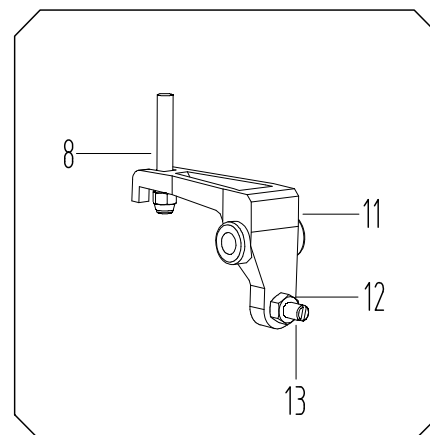

Figure 6
- 6.2 Screw 12 in Figure 6 functions to adjust truck condition. When the truck lifts and then descends immediately, rotate screw 12 anti-clockwise for a little bit and try the truck until it can lift normally. If the truck cannot descend after lifted, rotate screw 12 clockwise for a little bit and try the truck again until it can descend normally. Nut 13 at screw 12 functions to lock. Release it before adjustment, and lock it after adjustment.